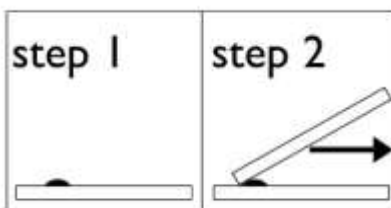

Figure 5.1 Negative staining of bacterial sample
- Using the second slide, touch and drag the nigrosin across the first slide as shown in figure 5.1.